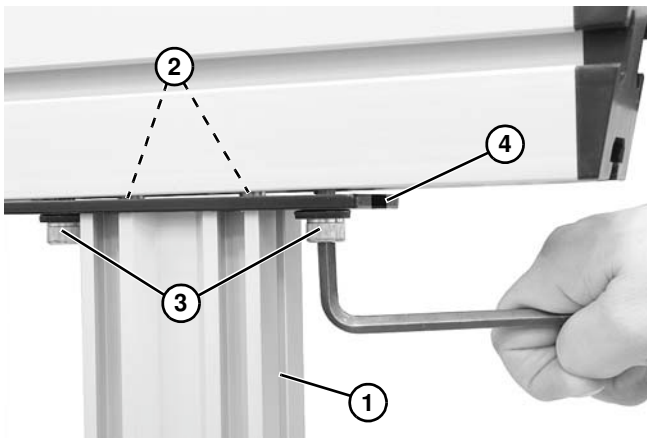

Figure 10
3. Raise stand leg (**Figure 10, item 1**) to bottom of conveyor. Make sure top plate mounting screws (**Figure 10, item 2**) align into channel.
4. Slide mounting hardware (**Figure 10, item 3**) into slot (**Figure 10, item 4**) on both sides of top plate and tighten.